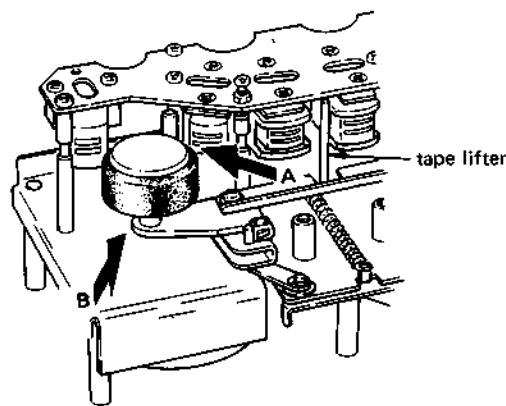
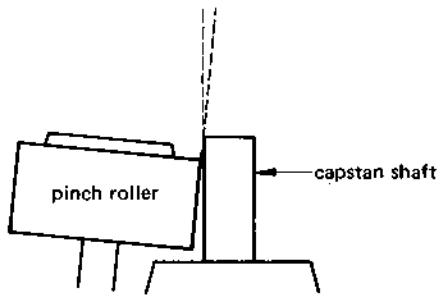
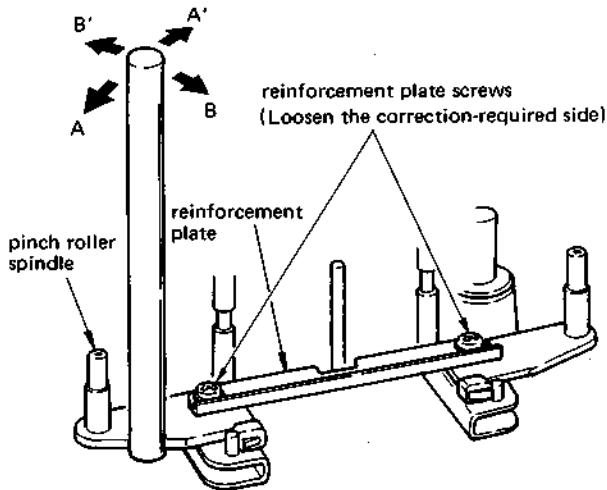

Fig. 2-15 Directions for pinch roller parallelism check
Fig. 2-16 View in direction A (example of non-parallelism)
Fig. 2-18 Pinch roller/capstan alignment
- Let pinch roller draw near toward capstan shaft by manually lifting up tape lifter shown in Fig. 2-15.
- Check pinch roller/capstan shaft parallelism viewed from direction of arrow A shown in Fig. 2-15. Refer to Fig. 2-16.
- If not parallel, loosen the reinforcement plate screw near the correction-required side (Refer to Fig. 2-18), then correct tilt of pinch roller spindle using correction jig. Adjustment can be done by tilting correction jig in direction of arrow A or A'.
- (1) Use the jig as near as possible to the pinch roller spindle.
- (2) Do not touch the surface of spindle.
- (3) Use no other tool for this adjustment!
- Remove pinch roller, then push up tape lifter to visually align pinch roller spindle with the capstan shaft viewed from direction of arrow B in Fig. 2-15.
- If needed, adjust by tilting correction jig in direction of arrow B or B' in Fig. 2-18.
4. If a change is found, re-adjust accurately tilt of pinch roller spindle by method illustrated in Fig. 2-18.